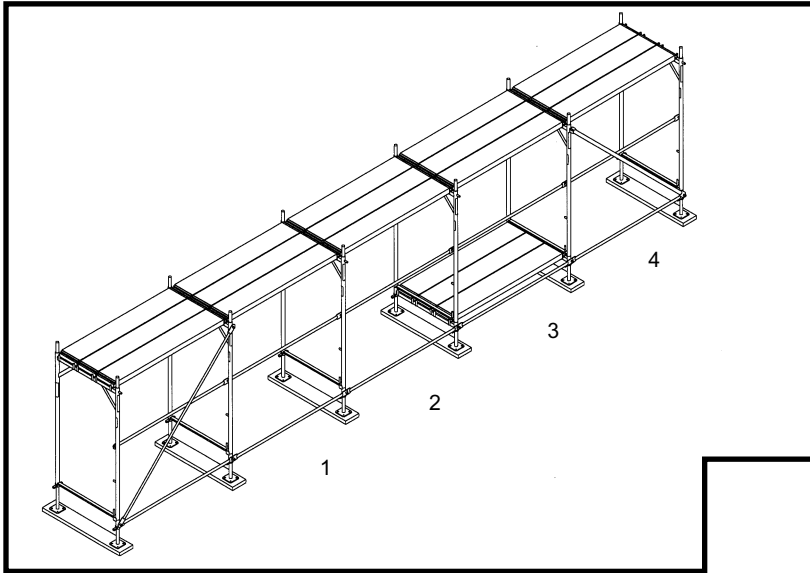

**Figure 4: Location of Bracing Members**
bracing members will form a triangle with one of the scaffold frames. Install a rail (SLGR\_) on the top guardrail studs to connect the two frames. Install three scaffold plank on the star-pins of the two frames. Adjust Screw Jacks until frames are plumb and level (See Figs. 4 and 5). Install a side bracket (SLBR2S) on each frame if side brackets are to be used (See paragraph 2.6.1). Check to assure the frames are at the correct distance from the working surface.
**2.2.6 Bracing:** Vertical diagonal bracing must be placed from the Base Support or Vertical Diagonal Starter Drop Lock, located just above the Screw Jack handle in the first bracing bay, to the drop lock connection located on top of the other frame in the bay (See Fig. 4). A Vertical Diagonal Brace must also be installed in each vertical lift as the scaffold is erected higher. These additional braces can be placed in a tower fashion using either the zigzag pattern or a parallel pattern (See Fig. 12). Install these additional braces from drop lock stud of the frame below to drop lock stud on the frame above. Repeat this pattern in both end bays and every 4th bay along a scaffold run as described
Diagonal braces will be installed in the designated bays from frame to frame using the outer holes located at the ends of the diagonals (See Figs. 4 and 12).